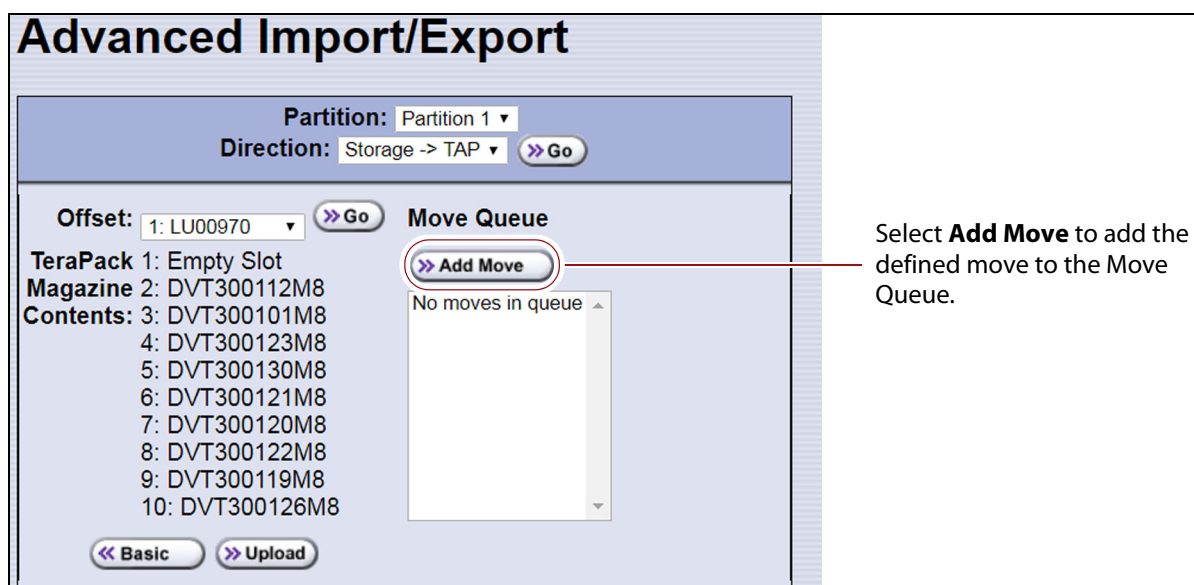

Figure 117 Add the move to the Move Queue.
- c. On the Advanced Import/Export screen (see Figure 117 on page 224), click **Upload**. The Upload Media Exchange Move List screen displays.